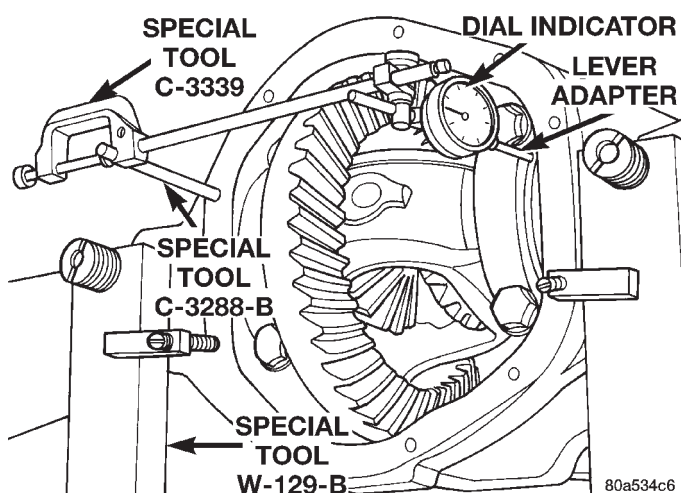

Fig. 25 Install Dial Indicator
(8) Install a Pilot Stud C-3288-B at the left side of the differential housing. Attach Dial Indicator C-3339 to pilot stud. Load the indicator plunger against the opposite side of the housing (Fig. 25) and zero the indicator.
(2) Install a Pilot Stud C-3288-B at the left side of the differential housing. Attach Dial Indicator C-3339 to pilot stud. Load the indicator plunger against the opposite side of the housing (Fig. 25) and zero the indicator.